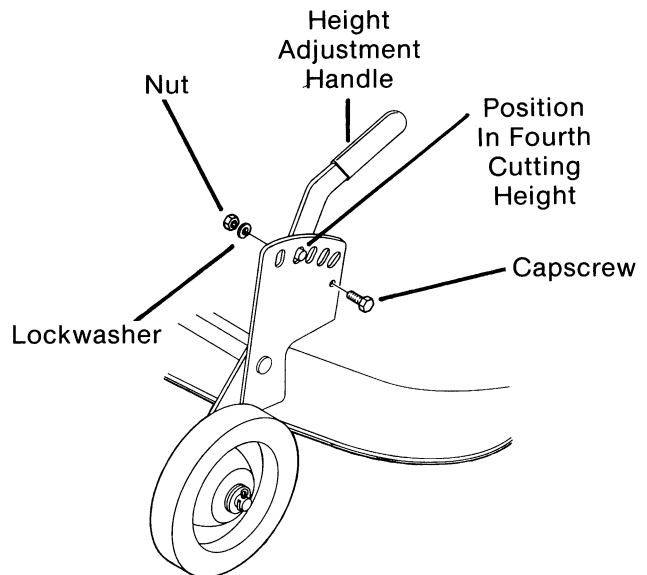

FIG. 3
- a. Move height adjustment handle to the fourth highest notch as shown in (Fig. 3).